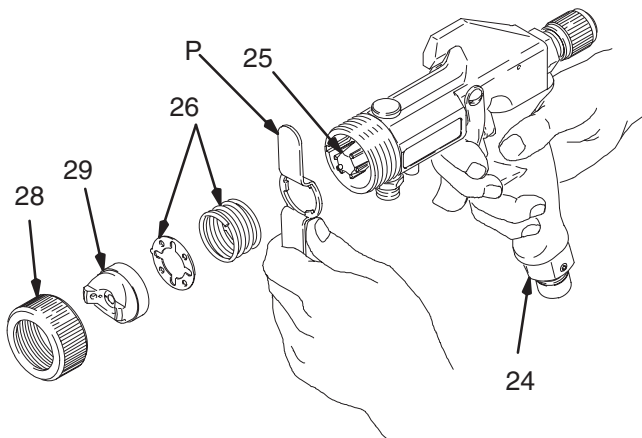
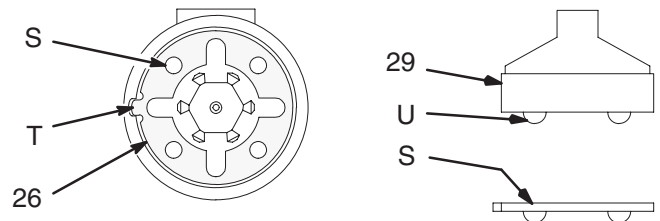

Fig. 21
Fig. 23
2. Remove air cap retaining ring (28), air cap (29), spring (26), and detent plate (26). See Fig. 21.
3. Trigger gun while removing fluid nozzle (25) with nozzle wrench (P), provided. Clean gun as instructed on page 15.
5. Trigger gun while installing fluid nozzle (25) with nozzle wrench (P). See Fig. 21.
6. Install spring (26) into front of gun.
7. Install detent plate (26) into gun housing with open sockets (S) facing up; align detent plate tab (T) with notch in gun housing. See Fig. 23.
8. Install air cap (29), aligning air cap balls (U) with detent plate sockets (S). See Fig. 23. Secure air cap with air cap retaining ring (28).